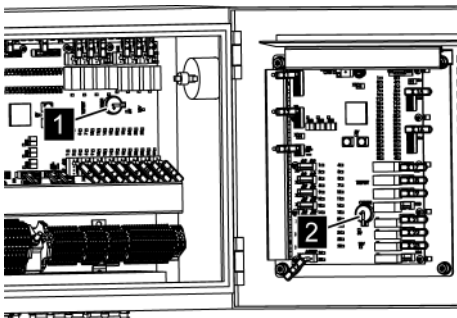

Fig. 175: Back-up batteries
3. ➤ Replace the back-up battery (Fig. 175/1) of the master card or the back-up battery (Fig. 175/2) of the slave card with a comparable battery (CR2032).